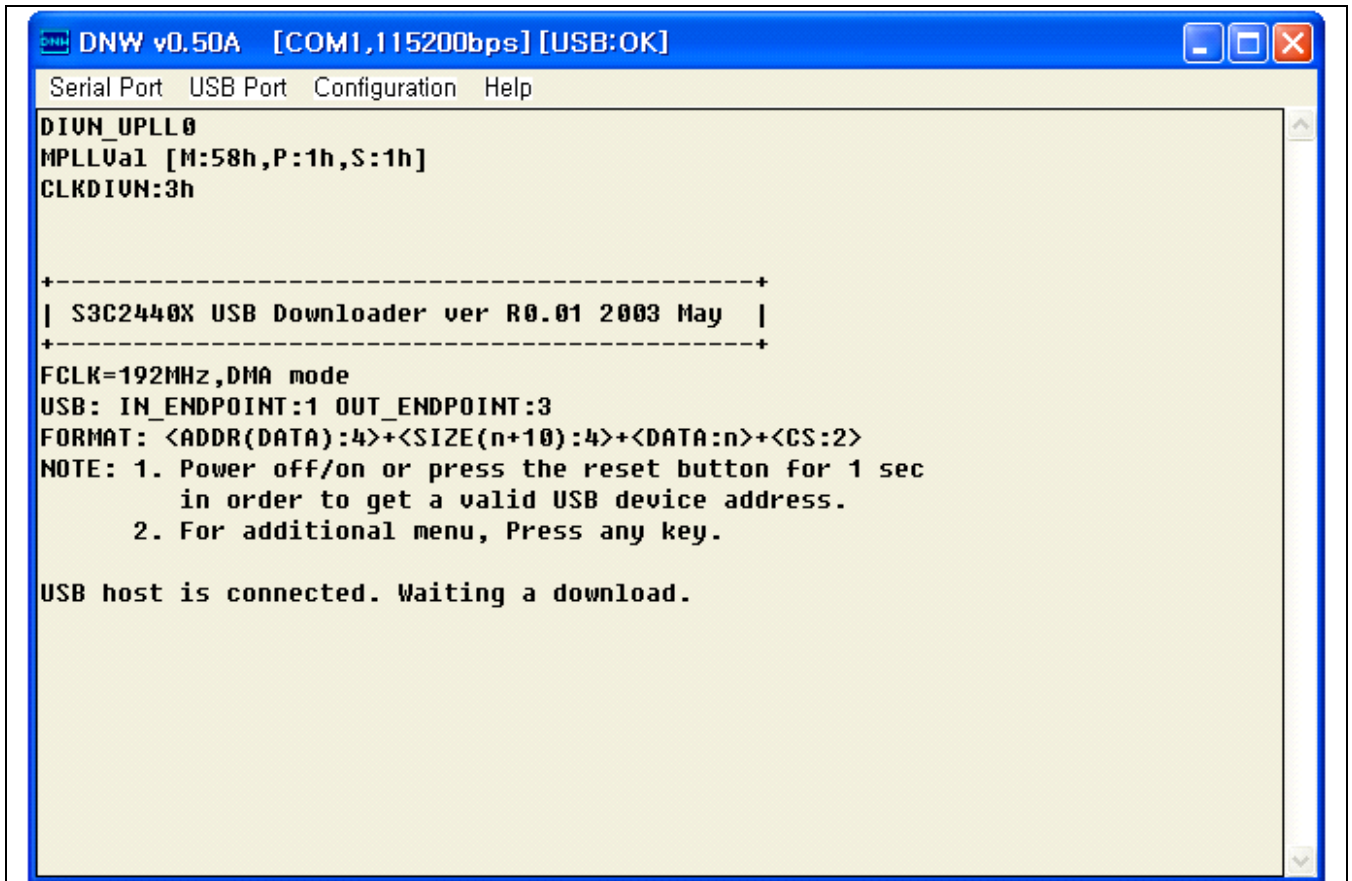

Figure 2-6. Power On Screen
2. Power on the SMDK2440 (See Figure 2-6).